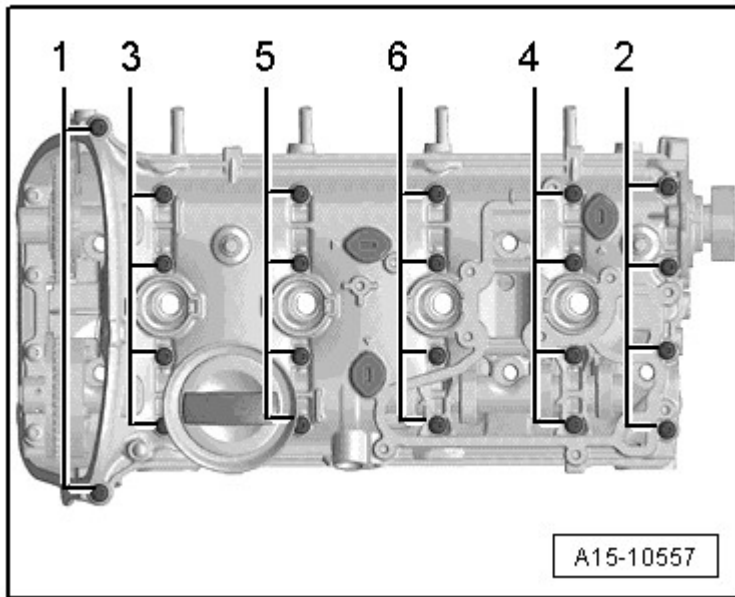

Fig. 22: Identifying Cylinder Head Cover Loosening
- Loosening, refer to **Fig. 22**